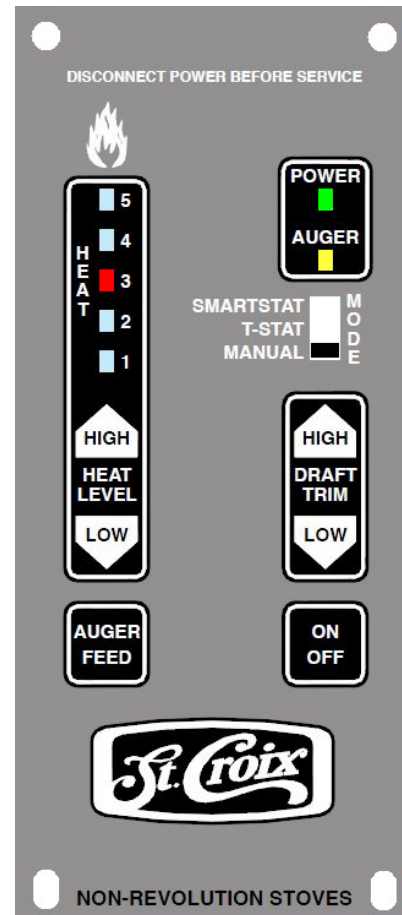

Figure 18
A closer look at the Control Board to the right in figure 18 will explain how the board works. There are essentially 4 buttons on the control board. Two of these buttons, the **Heat Level** and **Trim** Buttons, have a High/Low side to advance these settings up or down. There is a **Slide Switch** that controls the Thermostat Mode and an **LED Light** bar that indicates which of the 5 Heat Settings the Greenfield is running on.
4. Close the door and push the On/Off button on the control board. (*See figure 18 on page 26*)